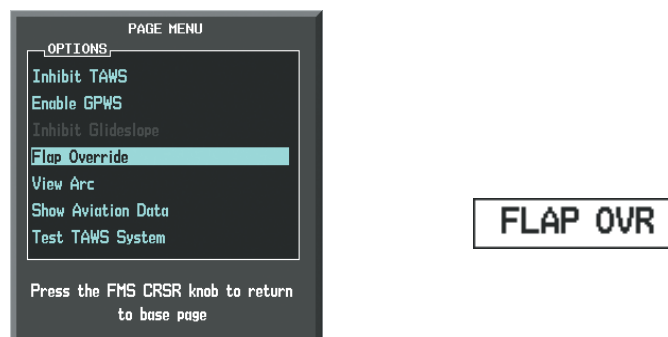

Figure 6-99 TAWS-A Page Menu and FIT Flap Override Annunciation
- 1) Press the **MENU** Key. (Figure 6-99)
When the Flaps Override option is enabled, the annunciation 'FLAP OVR' is annunciated on the PFD and on the TAWS-A Page of the MFD (Figure 6-99). If GPWS alerts are also inhibited (which include FIT), the 'FLAP OVR' annunciation is not shown.